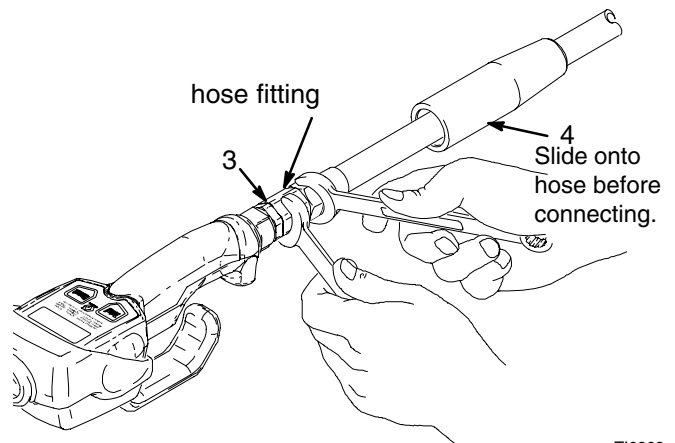

Fig. 3
8. Slide the swivel cover (4) of the EM5 onto the hose, small end first. See Fig. 3.
9. Apply thread sealant to the male threads of the hose fitting, thread the hose fitting into the swivel (3) of the EM5, and tighten firmly. See Fig. 3.